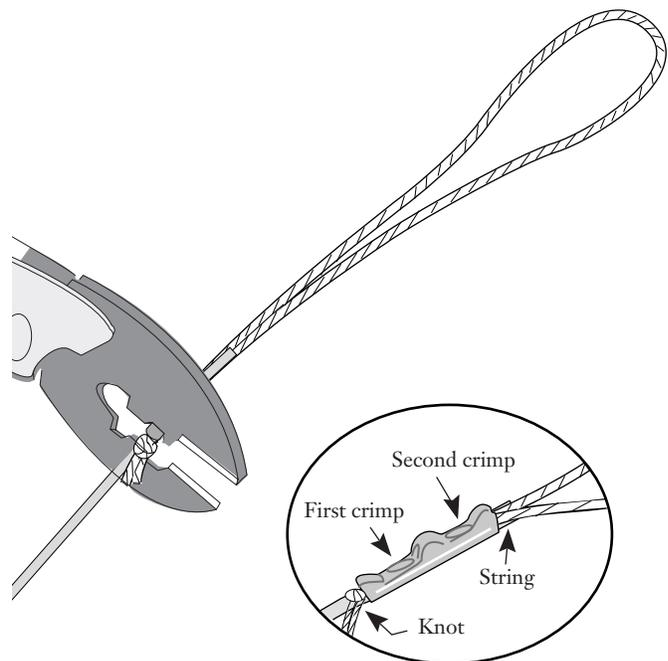

Figure 8
- 5.5 Making sure that the string is positioned under the tooth of the crimp tool jaw, use the tool to crimp the crimp sleeve, first in front of the knot, and again on the cable-end side of the sleeve (Figure 8).